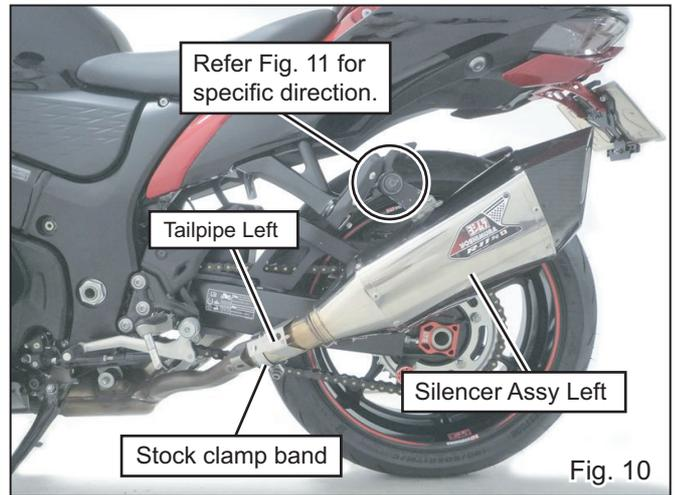

Fig. 10
12) Install Silencer Assy and Tailpipe (assembled at step. 11) to stock tailpipe. Then adjust the position of Silencer Bracket Left to stock silencer bracket and tighten clamp band by hand (See Fig. 10 ).
13) Mount Silencer Bracket Left to stock silencer bracket with stock bolt, washer, nut (See Fig. 10 & 11). Tighten the bolt by hand only at this stage.